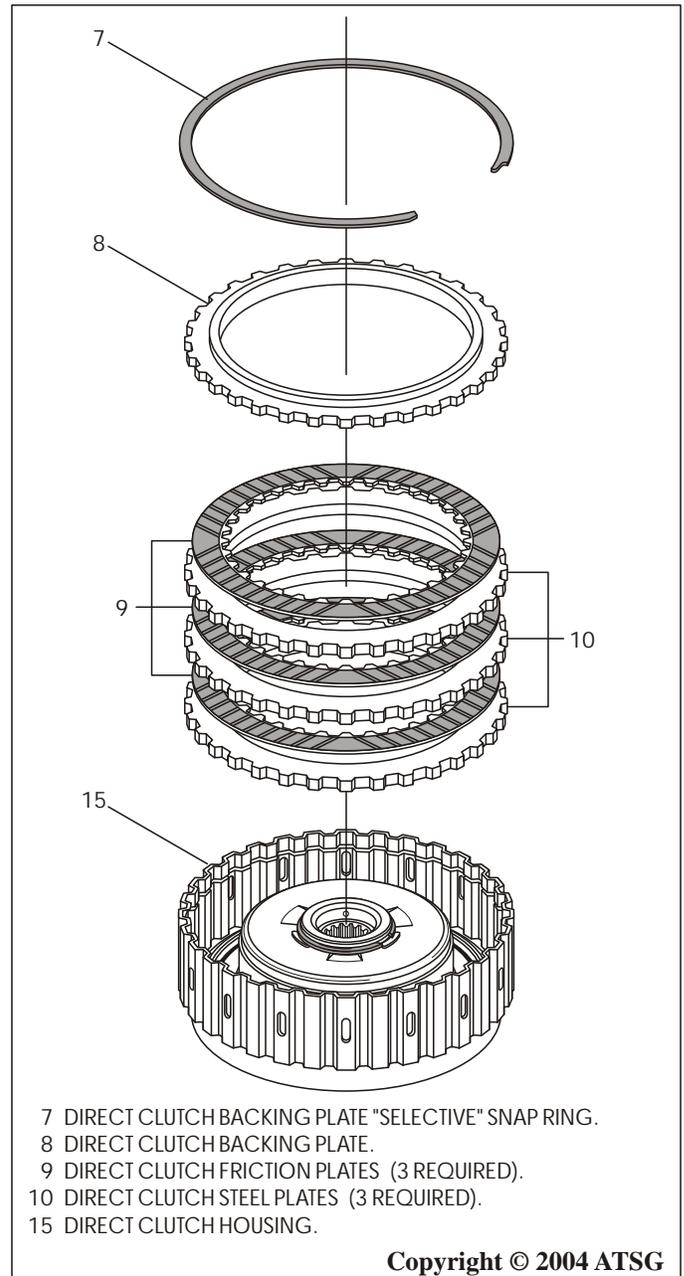

Figure 78
9. Install the direct clutch plates beginning with a steel plate and alternating with frictions until you have installed three of each, as shown in Figure 78.
10. Install the direct clutch backing plate, as shown in Figure 78.
11. Install the direct clutch backing plate selective snap ring, as shown in Figure 78.